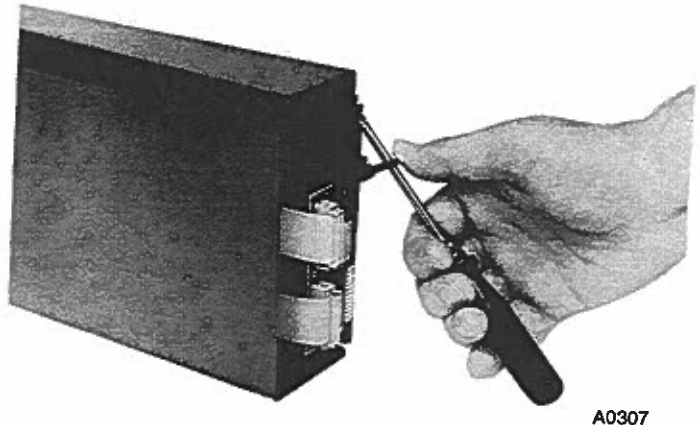

Figure 7-1. Removing the Input/Output Assembly
2. To remove the input/output assembly, insert a screwdriver into the slot in the tab located at the top of the power supply bracket and carefully pry against the case, pulling forward (Figure 7-1). Slide the assembly out of the housing.
2. Remove the input/output assembly by inserting a screwdriver into the bottom of the slot in the tab located at the top of the power supply bracket and carefully prying against the case (Figure 7-1). Slide the assembly out of the housing.
2. To remove the input/output assembly, insert a screwdriver into the bottom of the slot in the tab located at the top of the power supply bracket and carefully pry against the case, pulling forward (Figure 7-1). Slide the assembly out of the housing.